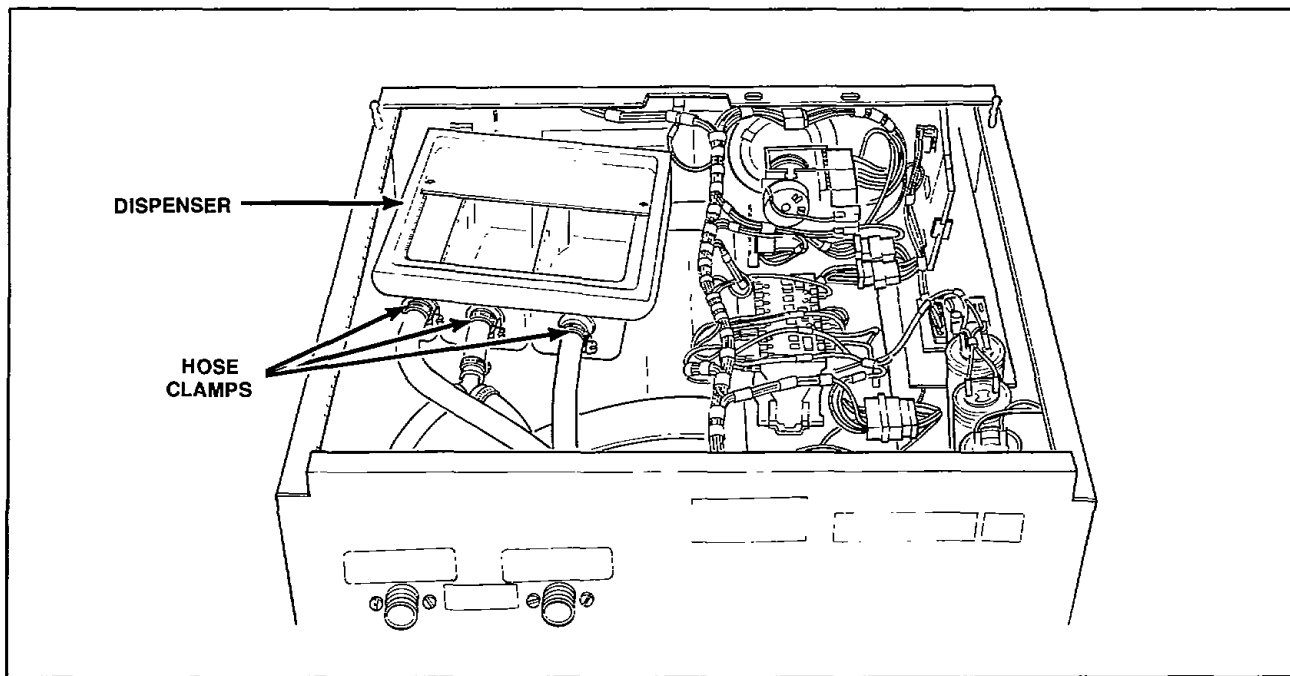

Figure 22
- e. Loosen hose clamps and remove hoses from nozzles on rear of dispenser, *Figure 22*.